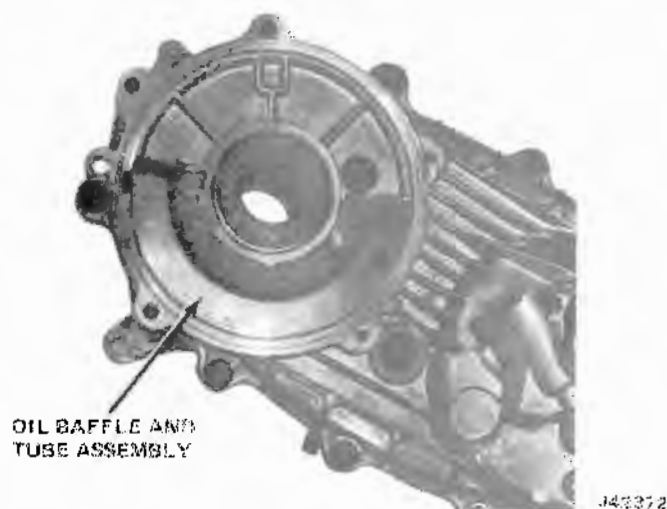
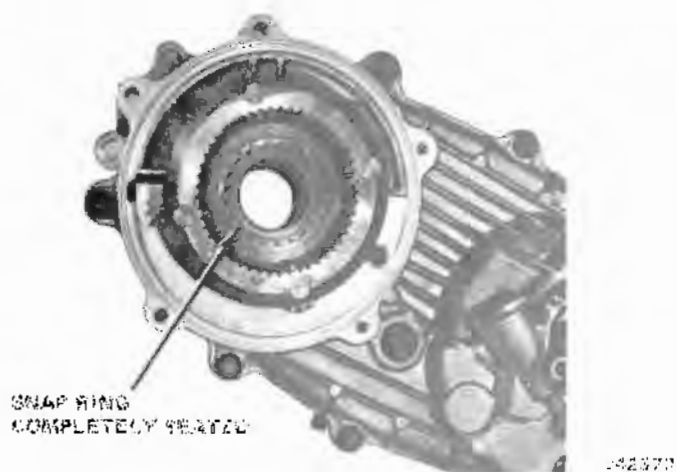

Fig. 8-21 Reduction Oil Baffle and Tube Assembly Installed
Fig. 8-22 Reduction Pinion Cage Installed
- (1) If removed, place reduction oil baffle and tube assembly on rear of transfer case cover (fig. 8-21).
- (2) If removed, install pinion cage onto transfer case drive sprocket splines.
- (3) Install retaining snap ring. Be sure snap ring is seated completely in groove (fig. 8-22).